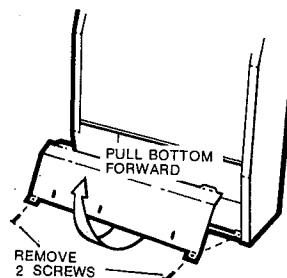

FIG. 4. REMOVING LOWER FRONT PANEL
Step 4. Remove the lower front panel of heater by removing the two screws near the bottom corners and pulling the bottom of panel forward. (Fig. 4)